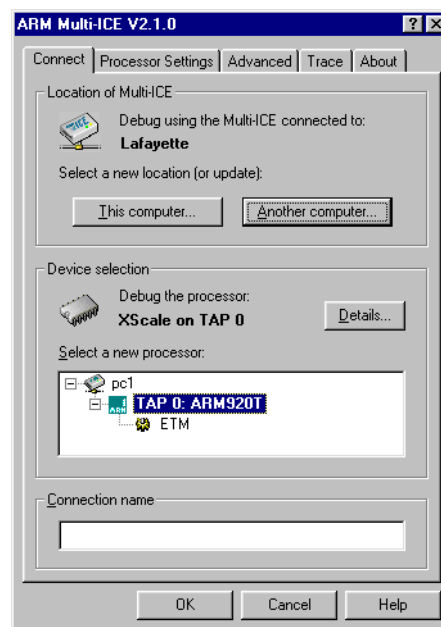

Figure C-3 The Multi-ICE configuration dialog box
5. With Multi-ICE shown in **JTAG Controller**, click **Configure** to configure Multi-ICE. This displays the configuration dialog box shown in Figure C-3.